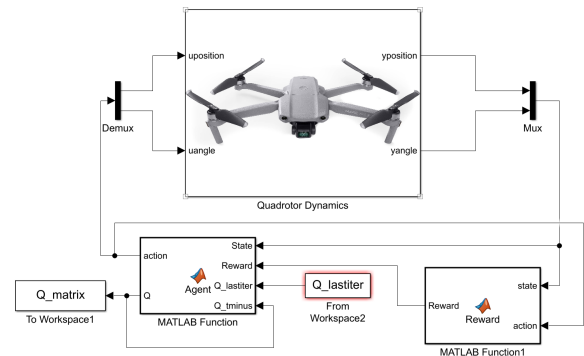

Fig. 16. Example RL model.
- a. An example model configuration is shown in Fig. 16 (It is not provided; you should configure it by yourself. The loop might be different depending on your designed q-learning algorithm).